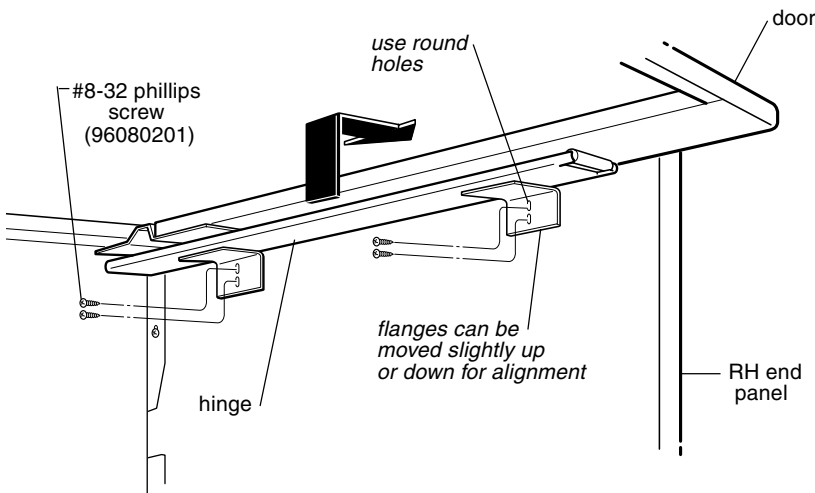

Figure 4
6. Position door over top of installed shelf. Align round holes in slide flanges with holes at top of the end panels. Fasten each slide with four (4) #8-32 phillips screws. Finger tighten screws. (Figure 4)